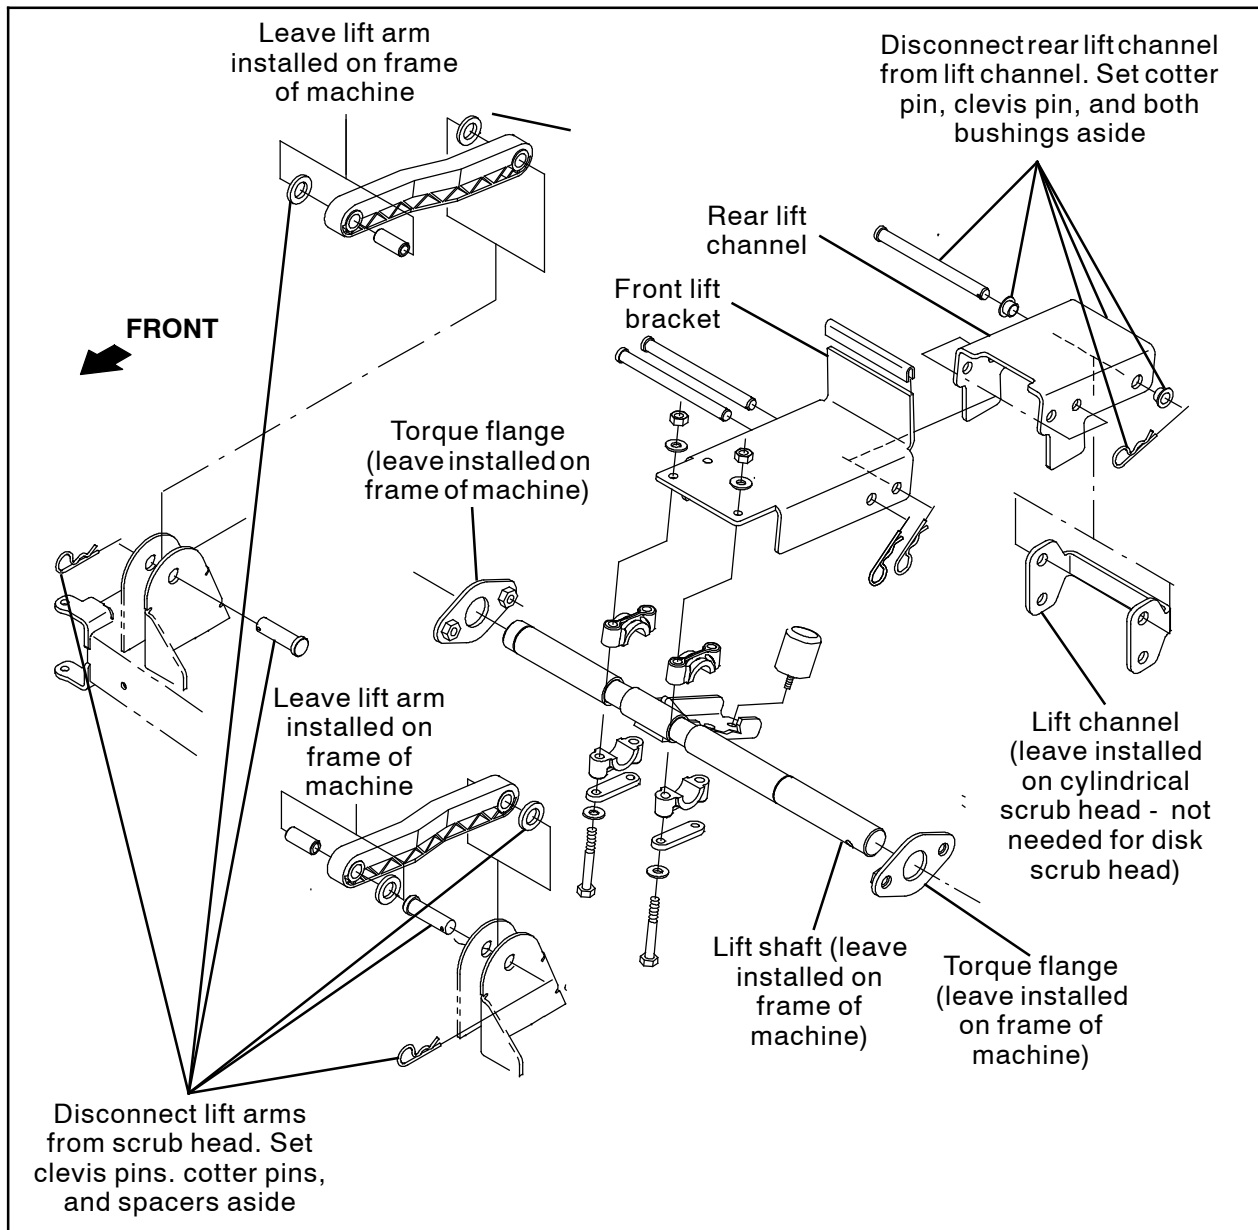
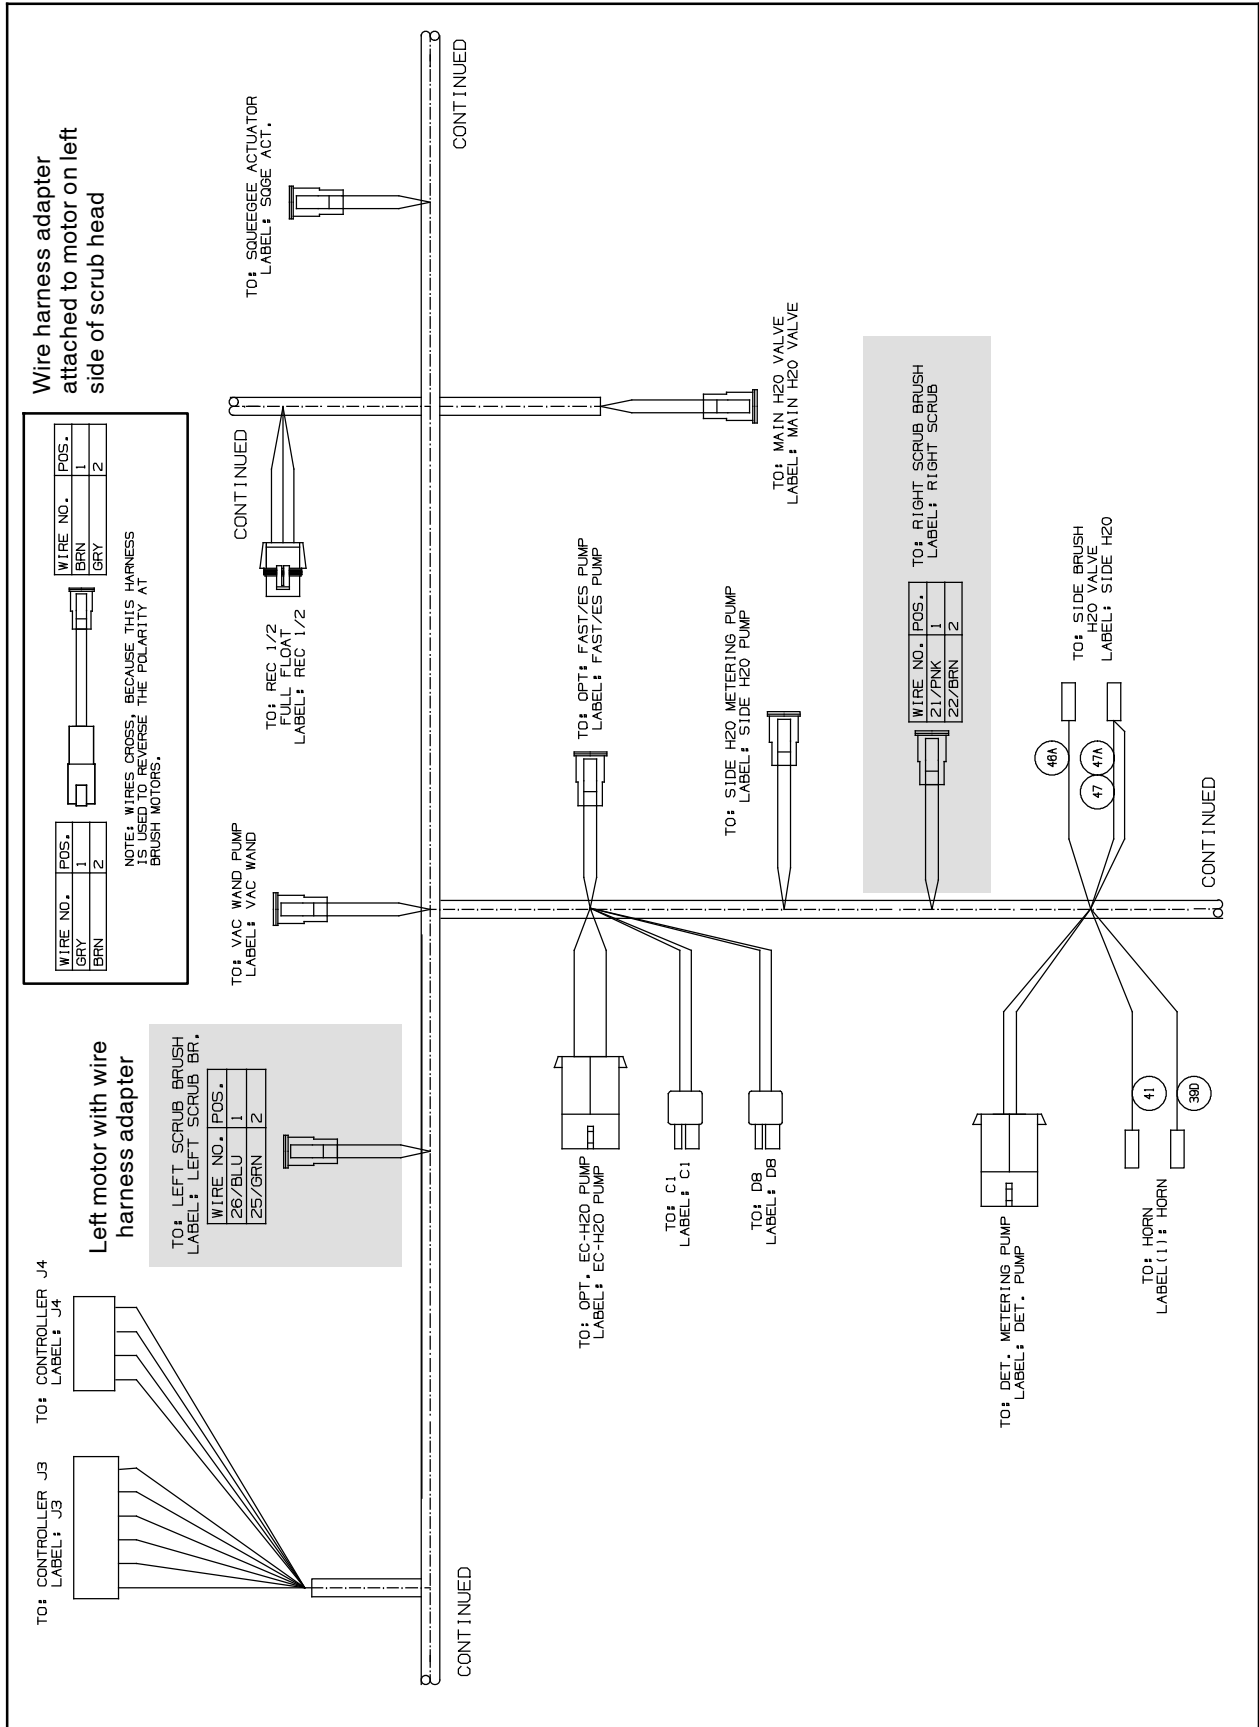
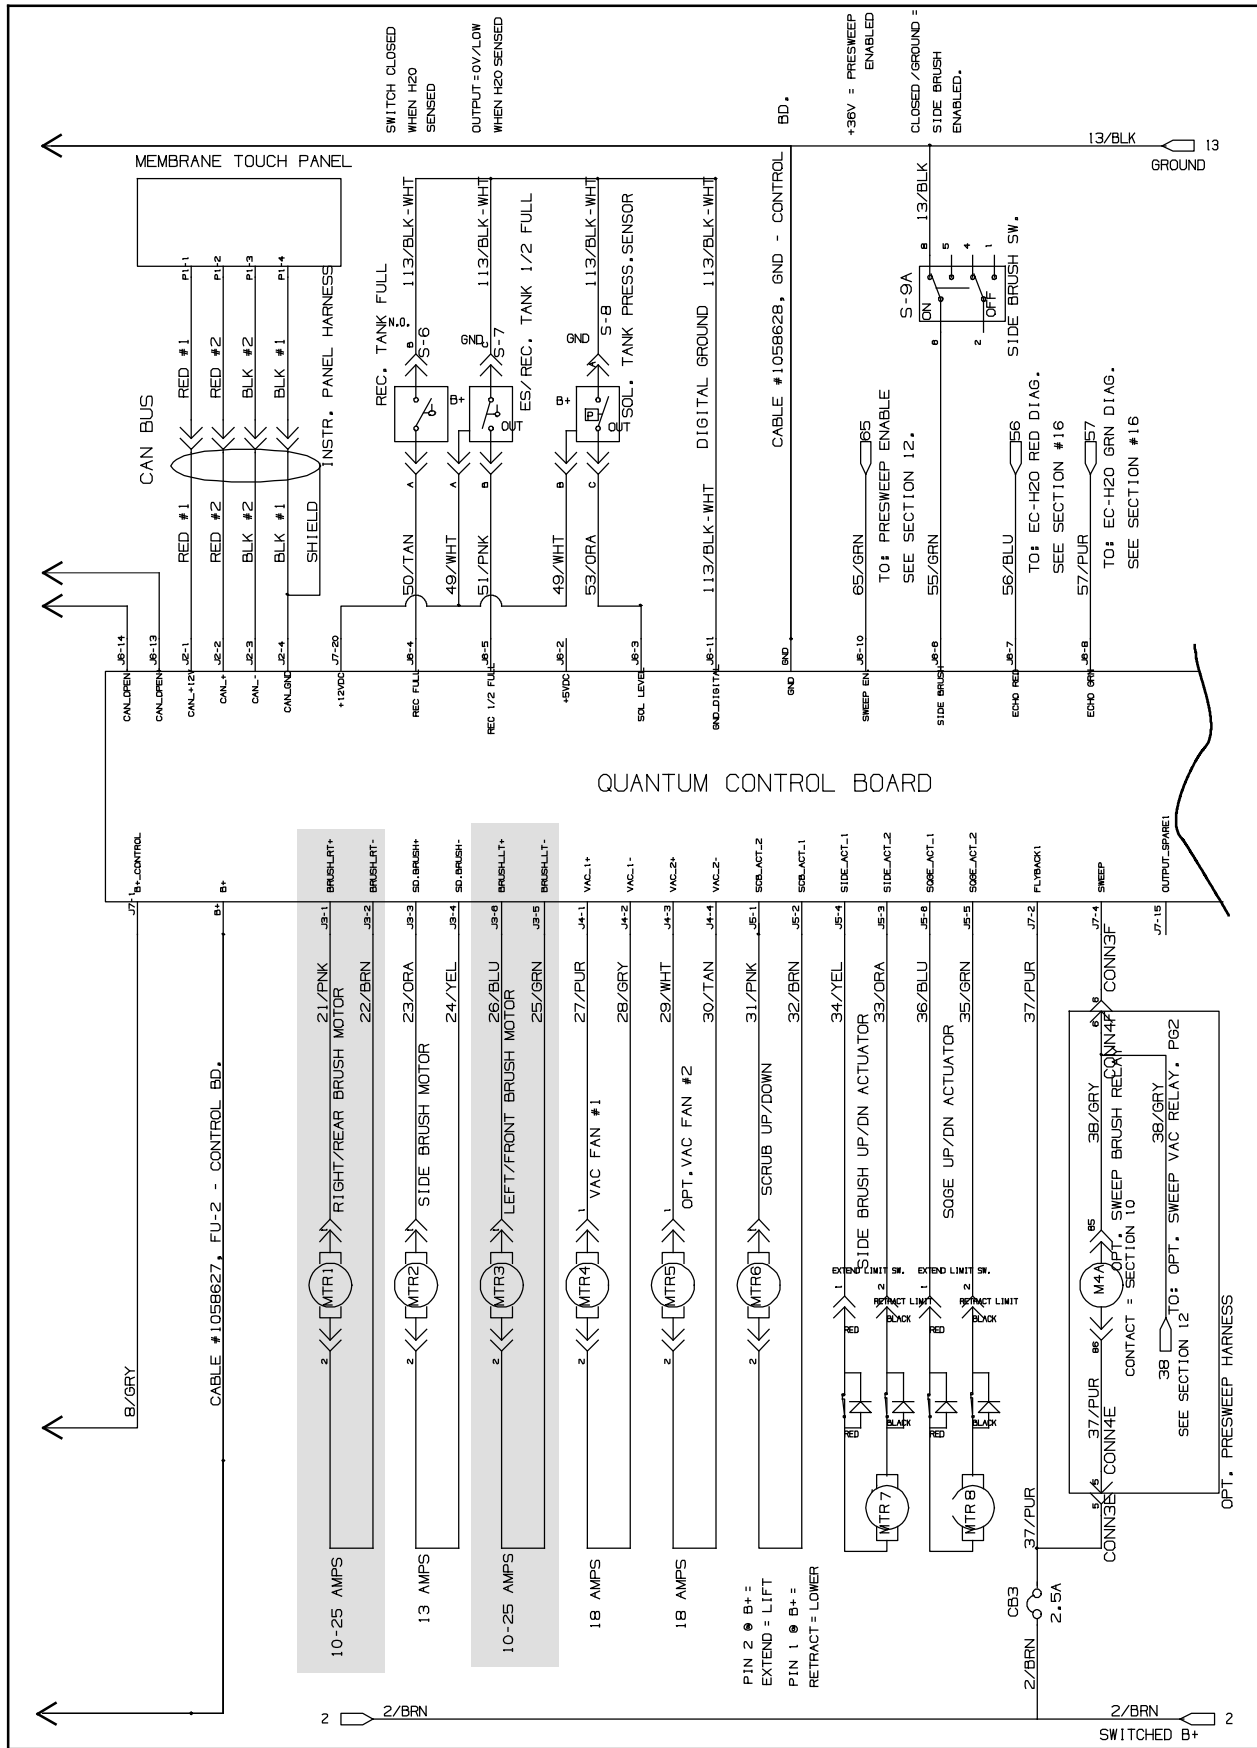

FIG. 2
FIG. 3
FIG. 4
5. Disconnect both scrub head lift arms from the scrub head. Set the cotter pins, clevis pins, and spacers aside. (Fig. 2)
6. Disconnect the rear lift channel from the scrub head. Set the cotter pin, clevis pin, and both bushings aside. (Fig. 2)
12. Connect the main wire harness to both brush motors. (Fig. 3 / Fig. 4)
13. Connect the solution manifold (17) to the water solenoid valve and the scrub head.
15. Connect the rear lift channel to the scrub head. (Fig. 2 / Fig. 3)
16. Connect both scrub lift arms to the scrub head. (Fig. 2 / Fig. 3)